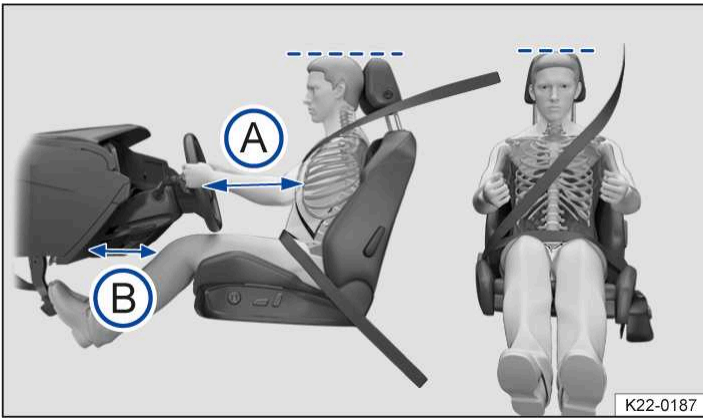

Fig. 1 Correct distance between the driver and the steering wheel, correct seat belt routing and correct head restraint adjustment (illustration).
- Adjust the head restraint so that its upper edge is at the same height as the top of the head, but not lower than eye level. Position the back of your head as close to the head restraint as possible at all times → *Fig. 1*.
- Adjust the driver seat by moving it forwards or backwards so that you are able to press the pedals to the floor with your knees still slightly bent and so that the distance from the dash panel to your knees is at least 10 cm (around 4 inches) → *Fig. 1* **(B)**.